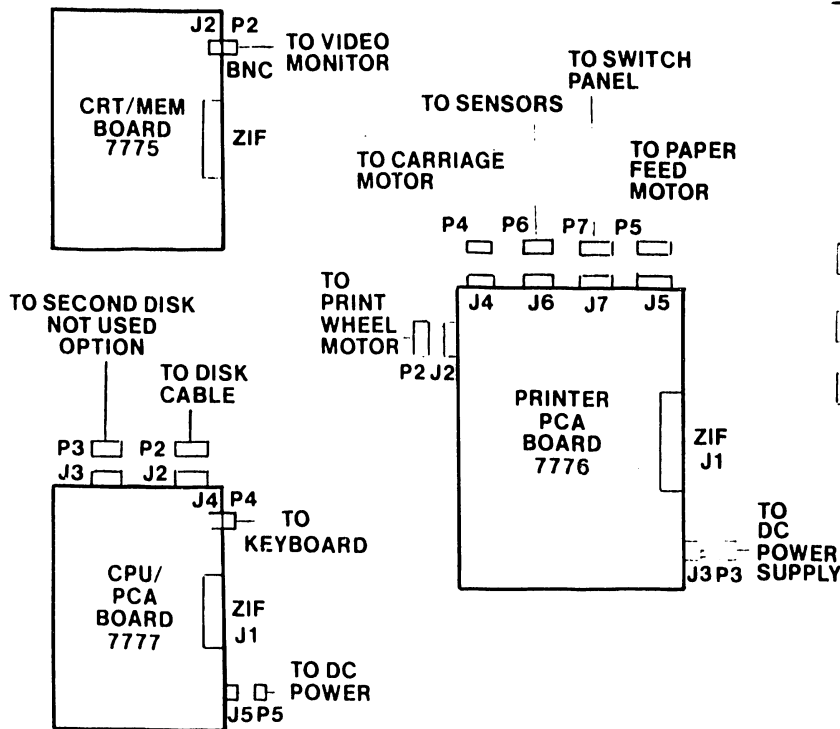

FIGURE 5-41
4. Disconnect cables (see Figure 5-41 and Figure 5-42). To release the ZIF connectors, pull the levers on the PCA behind the PCA being removed .